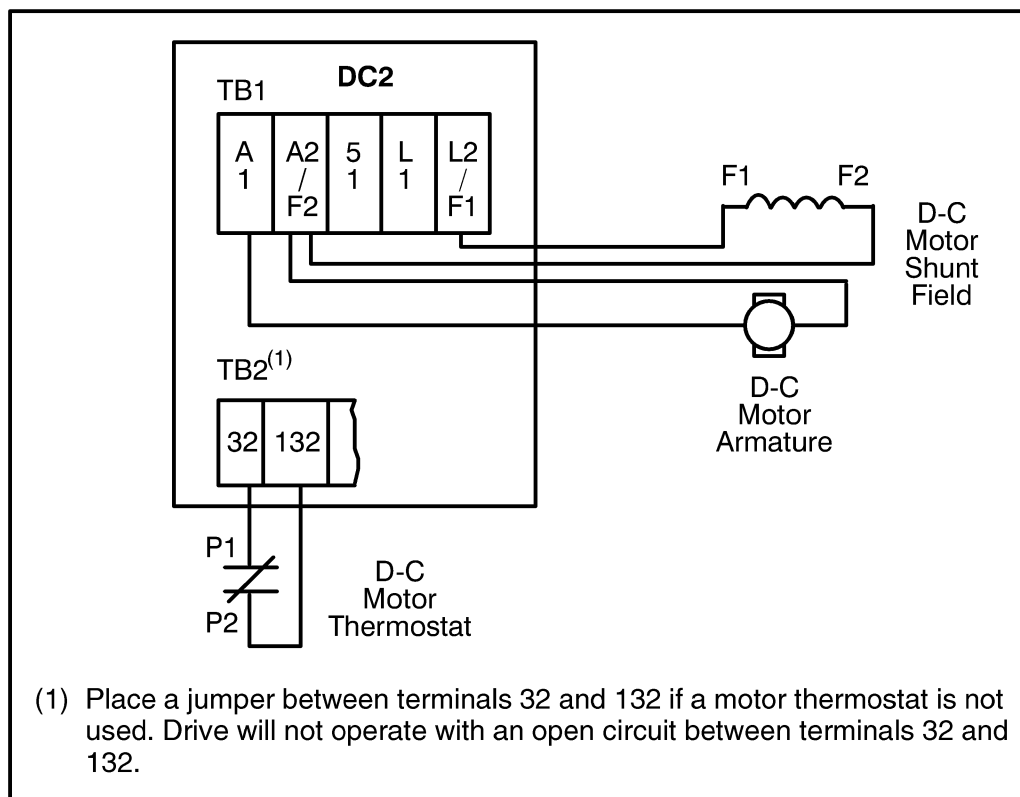

Figure 3-4. Armature, Field and Thermostat (CCW Rotation) Connections.
4. For ALL Catalogs (except 1365-DAF): If CCW motor rotation is desired (looking from the back of the motor or the shaft end), connect motor armature leads A1 and A2 to controller terminals TB1-A1 and TB1-A2/F2, respectively, as shown in Figure 3-4. If CW motor rotation is desired (looking from the back of the motor or the shaft end), reverse the motor armature connections at the motor.
5. Connect the motor shunt field supply (when available) leads F1 and F2 to controller terminals TB1-L2/F1 and A2/F2, respectively. See Figure 3-4.
7. Connect the motor thermostat leads P1 and P2 to controller terminal TB2-32 and TB2-132, respectively. See Figure 3-4.